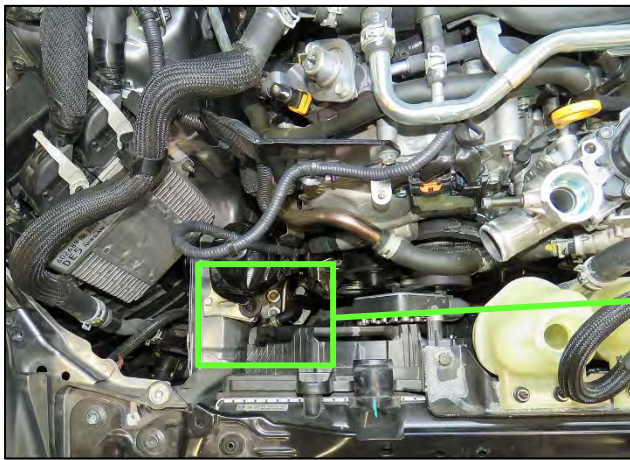
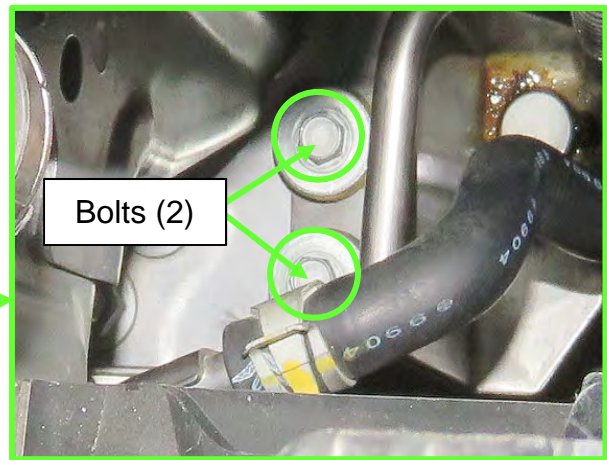

Figure 22
Figure 23
37. For vehicles that have an oil cooler, remove the two (2) bolts retaining Oil Cooler Pipe 1 bracket to the vehicle (Figure 22 and Figure 23), located under the Air Cleaner Body (bank 1).